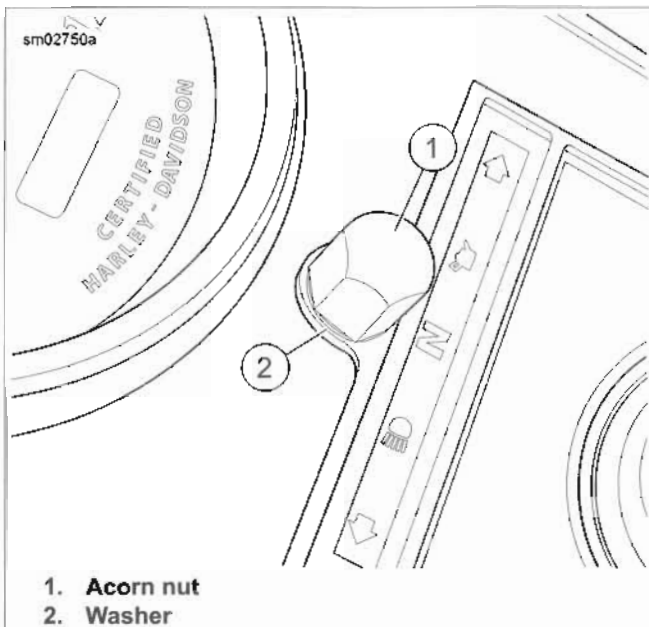

Figure 4-3. Instrument Console
- a. **All but FXSB:** see Figure 4-3. Remove acorn nut (1) and washer (2) on instrument console to separate console from fuel tank.